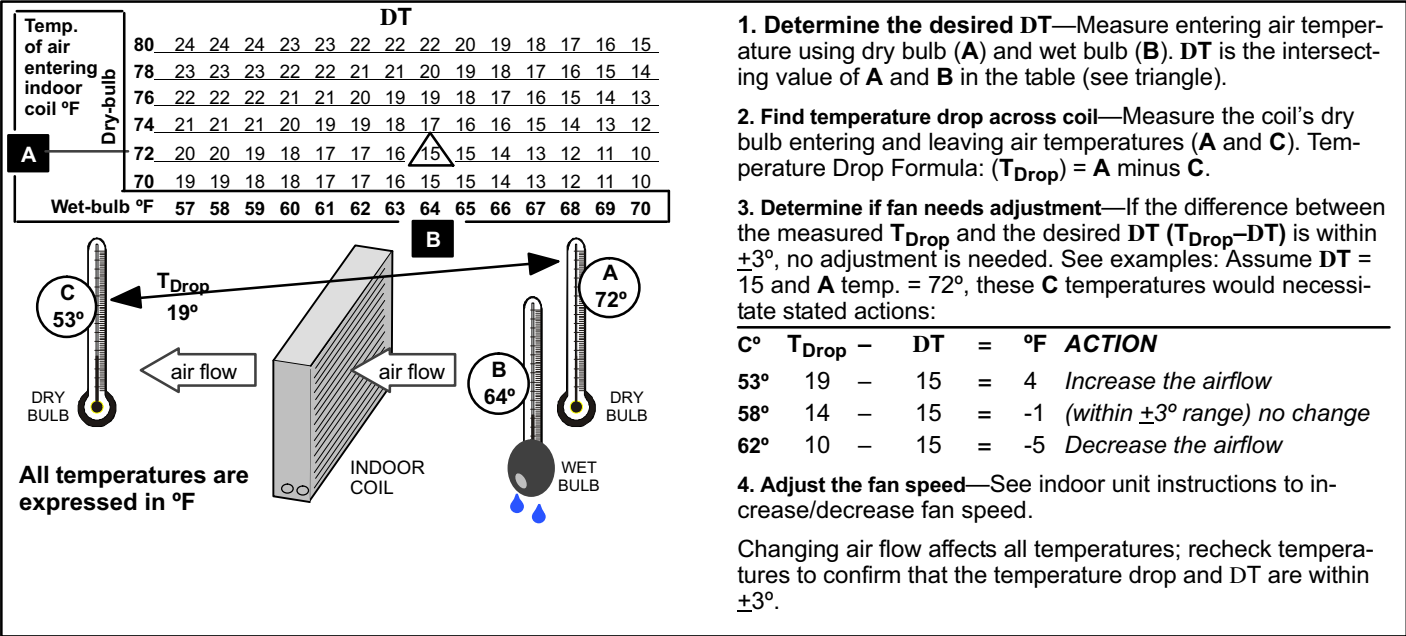

Figure 19. Checking Indoor Airflow over Evaporator Coil using Delta-T Chart
Check airflow using the Delta-T (DT) process using the illustration in figure 19.
- Confirm proper airflow across coil using figure 19.